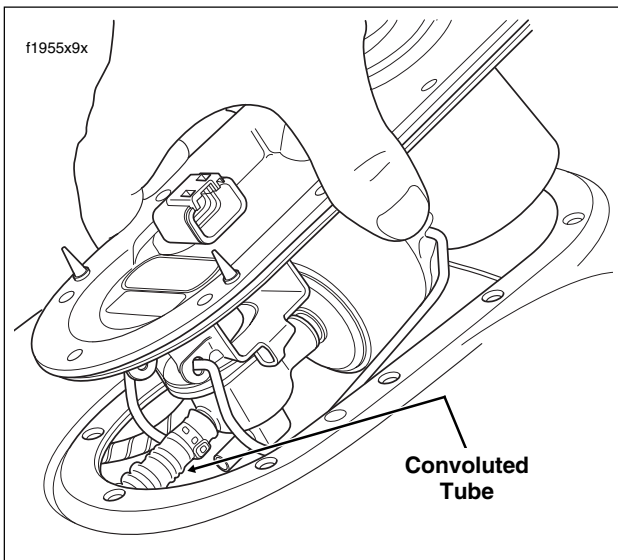

Figure 9-14. Raise Canopy and Remove Tube (FLHT/C/U/I, FLTRI)
13. Raise canopy slightly to access top fitting (inlet port) at back of fuel pressure regulator. Using a side cutters, cut hose clamp and remove convoluted tube. Exercise caution to avoid cutting or damaging tube or dropping pieces of cut clamp into fuel tank. See Figure 9-14.
4. Raise canopy slightly and slide **new** hose clamp onto free end of convoluted tube. Install tube onto top fitting (inlet port) at back of fuel pressure regulator. Crimp clamp. See Figure 9-14.